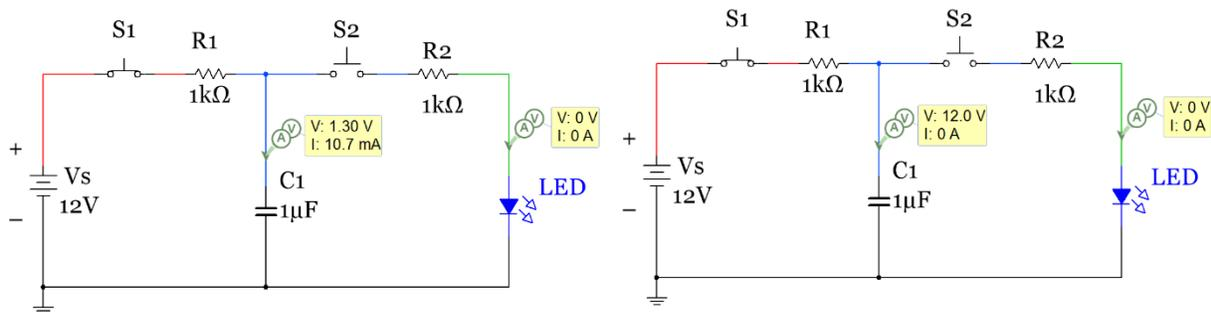
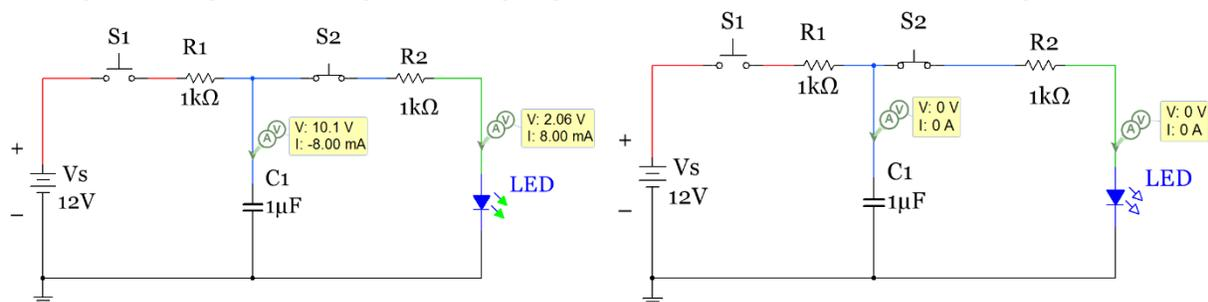

Figure 3.4: Charging the Capacitor in a RC circuit (Left – slightly charged, Right – fully charged)
Figure 3.5: Discharging a Capacitor across an LED (Left – barely discharged, Right – fully discharged)
When simulating capacitors in Multisim the zero initial condition is also made unless the capacitor is put in a circuit where it is charged to a non-zero voltage and a switch is pressed to release the voltage as shown in Figure 3.4. If the initial conditions are zero,  $v_C(t)$  can simply be determined numerically by summing the area under the  $i_C(t)$  curve. The current in equation 3.4 can also be determined numerically by dividing the change in voltage by the change in time, but this assumes  $i_C(t)$  is linear (which it isn't). Both  $i_C(t)$  and  $v_C(t)$  are exponential functions as shown in Section 3.5. However, if a small  $\Delta t$  value is selected it allows the linear approximation to be made for capacitors that are in their transient mode of operation during either the charge or discharge cycles. Table 3.3 shows an example of where a small  $\Delta t$  value is used and the linear assumption is made in a RC circuit. The result is a relatively small error when compared to Multisim simulation results that do not assume a linear approximation. Since DC circuits at steady state have a constant voltage across any component ( $\Delta V = 0$ ) the current through a capacitor is also forced to be zero due to equation 3.4 ( $i_C = C \cdot \Delta v / \Delta t$ ). However, in the transient region (before the voltage across a capacitor reaches steady state) the current through a capacitor is not zero. For example, if the voltage increases (approximated as linear) by 2 volts over 1 msec and the capacitor is a 1  $\mu\text{F}$  capacitor then the current at that point in the transient region would be:
This property of capacitors makes them well suited for applications where sudden voltage changes are undesirable such as smoothing filters, surge protectors, and ripple voltage removal in AC to DC rectifier circuits. The capacitor's charging and discharging cycles in a RC circuit are shown in Figures 3.4 and 3.5. These figures show a very common circuit. A practical example of this circuit is found in the flash circuit of a camera. When the switch is pressed to take a picture it charges a capacitor and when the switch is released the capacitor's stored energy is used to cause the light to flash.
Figure 3.4 shows two points in time of a capacitor being charged by a 12 V battery. The switches in these figures are normally open (NO) single pole single throw (SPST) push button switches, which are the same type that are used in the hands-on course project. Search for **PB\_NO** in Multisim to find them. When the switch S1 is pressed the capacitor begins to charge and the voltage increases from zero towards 12 V in an exponential manner (as described in section 3.5). The left circuit of Figure 3.4 shows that shortly after switch S1 is pressed the voltage across the capacitor is slightly above its initial value of zero (1.3V in Figure 3.4) and the current drops from a max value of 12 mA at  $t = 0+$  to 10.7 mA. Note:  $t = 0+$  is a way of denoting the time right after the switch is pressed. In the right circuit of Figure 3.4 it shows that as switch S1 is held down for a long time the capacitor reaches a steady state voltage of 12V (as described in more detail in section 3.6) and the current goes to zero. The current can be easily determined to be zero by looking at the  $\Delta V$  across the resistor. Recall:  $I_R = \Delta V/R$  so  $I_R = (12 - 12)/1000 = 0$
In the circuit in Figure 3.4 the capacitor is in the charging phase (or “store” phase) because switch S2 is never pressed so the right minor loop in the circuit is never engaged and no current ever flows through it so it has no effect on the circuit. In the discharge phase (or “release” phase) in Figure 3.5 switch S1 is now left open and is disengaged from the circuit so the capacitor is no longer being charged, but since the **voltage across a capacitor cannot change instantaneously** it will act like a battery in the release circuit that has a rapidly declining voltage. In the left circuit of Figure 3.5 after pressing switch S2 for a short amount of time the voltage across the capacitor begins to drop (shown as 10.1V in Figure 3.5). The current is initially (at  $t = 0+$ ) equal to  $I_R = \Delta V/R = (12 - 2)/1000 = \sim 10$  mA
The circuit shown in Figures 3.4 and 3.5 is called a **store and release problem** where a storage device such as a capacitor or inductor stores up energy and then a switch is used to release the energy in another part of the circuit. In section 3.5 DC transient analysis techniques are used to determine the voltage and current at any moment in time, but at this point this type of circuit is only shown to give background of how a capacitor works during its charging and discharging cycles. When a DC circuit is in the transient region where voltage and current are constantly changing it helps to look at the instantaneous current and voltage at different moments in time because at each one of those moments it acts like a DC problem where current and voltage are constant values and equations like Ohm’s Law, KVL, and KCL can easily be used to solve for unknown variable in the circuit. Looking at the instantaneous current and voltage will also help you understand AC circuits better because they also have continually changing currents and voltages. When looking at the instantaneous values you are in effect freezing time at any point while the capacitor is charging or discharging. At that moment in time the circuit is a simple DC problem. The values of different components in the circuit in Figures 3.4 and 3.5 are given in Table 3.2 to demonstrate this point. When the time is stated as **0-** it means “**right before a switch is pressed**” and when the time is stated as **0+** it means “right after a switch is pressed”.
**Table 3.2) Instantaneous Voltage and Current Values for Components in Figures 3.4 and 3.5.**
The  $i_L(t_0)$  term in equation 3.9 is the initial current through the inductor (or the initial condition). It is usually assumed to be zero and in this document we will always make this assumption. Unlike capacitors the inductor used in part 3 doesn't need to be manually discharged because when the voltage source is removed from the inductor the current will quickly dissipate. For this reason, using 2 separate SPST (**PB\_NO**) switches in a store/release circuit (like was used for the RC circuit in Figures 3.4 and 3.5) cannot be used because as soon as switch S1 is opened the inductor current would dissipate. Therefore, a **SPDT** switch is used to immediately switch between the store and release (charging and discharging) circuits. When simulating inductors in Multisim the zero initial condition is also made ( $i_L(0) = 0$ ) unless the inductor is put in a circuit where it is charged to a current and a **SPDT** switch is changed positions to release the current as shown in Figure 3.9. If the initial conditions are zero,  $i_L(t)$  can simply be determined numerically by summing the area under the  $v_L(t)$  curve. The current in equation 3.8 can also be determined numerically by dividing the change in voltage by the change in time, but this assumes  $v_L(t)$  is linear, which it isn't (as previously mentioned  $i_L(t)$  and  $v_L(t)$  are both exponential functions of time, as shown in Section 3.5). If a small  $\Delta t$  is selected it allows the linear approximation to be made for inductors that are in their transient mode of operation during the charge or discharge cycles as shown in Table 3.4. Since DC circuits at steady state have a constant current through any component ( $\Delta i = 0$ ) the voltage across an inductor is also forced to be zero due to equation 3.8 ( $v_L = L \cdot \Delta i / \Delta t$ ). However, in the transient region (before the voltage across the inductor reaches steady state) the voltage across the inductor is not zero. For example, if the current increases (approximated as linear) by 1 mA over 2 msec and the inductor has a value of 4 mH then the voltage at that point in the transient region would be:
The data in Table 3.2 for the RC circuit in Figure 3.4 is recreated in Table 3.5 for the RL circuit in Figure 3.9. For consistency when using the constant drop model for a forward biased LED, the LED voltage is listed as  $\sim 2$ V. However, since 1.2 A flows through the release loop and the actual LED voltage at that current would be closer to 2.5V (if the LED even survived that high of current) a significant error is seen due to the difference between the actual and modeled LED voltage. LEDs are typically rated for much lower currents (i.e. 20 mA for the LEDs used in the project). The inductor voltage at time = 0+ in the release circuit is equal to  $\sim -14$  V. This value can be calculated via a KVL going clockwise around the loop as follows:  $-V_{L1} - V_{R2} - V_{LED} = 0 \rightarrow V_{L1} = -12 - 2 = \mathbf{-14V}$